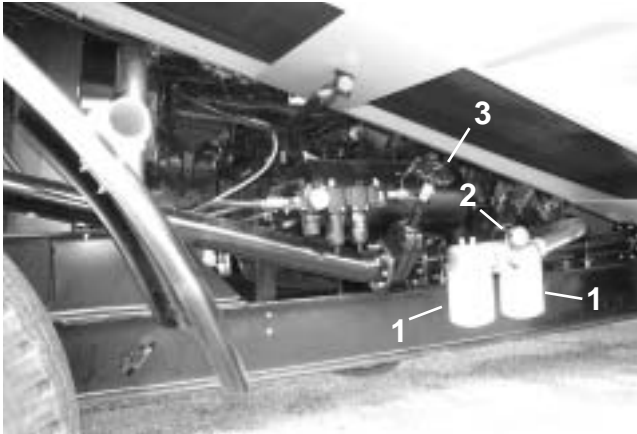

Figure 22. Suction Filters
5. Make sure the gate valve (Fig. 22) in the suction tube is turned full counterclockwise (open) with sleeve and handle installed. Do not attempt to start the engine with the gate valve closed. This will block the flow to the pumps and cause cavitation.